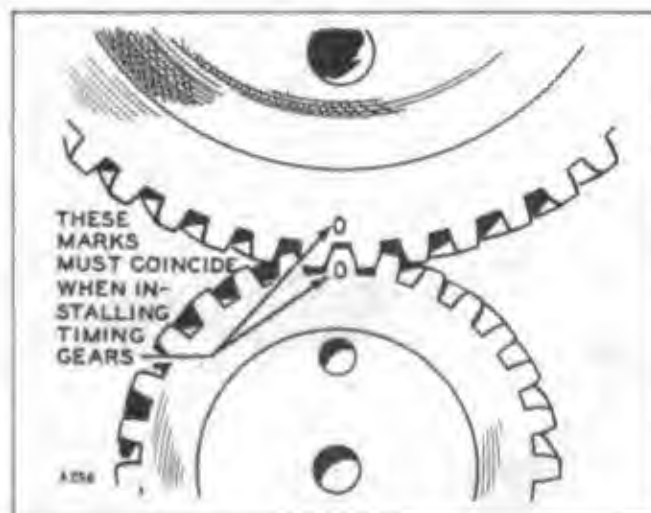

Figure 7. Timing Marks
5. Install the camshaft assembly in the engine. Align the timing marks on the camshaft gear and crankshaft gear (Fig. 7).